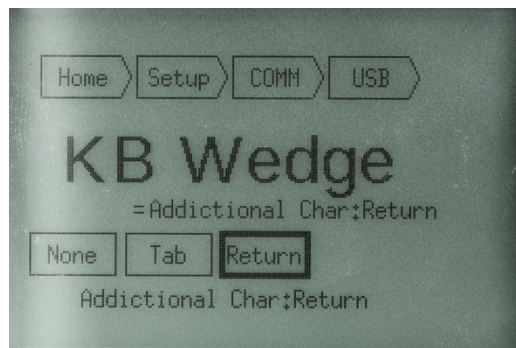

Figure 4-20: Keyboard Wedge Configuration Screen
- Once the **KD Wedge** screen (Figure 4-20) is accessed, a further option appears: an additional character can be designated after the weight data is typed, to index to the next space in the program. Options are **None**, **Tab** and **Return**.